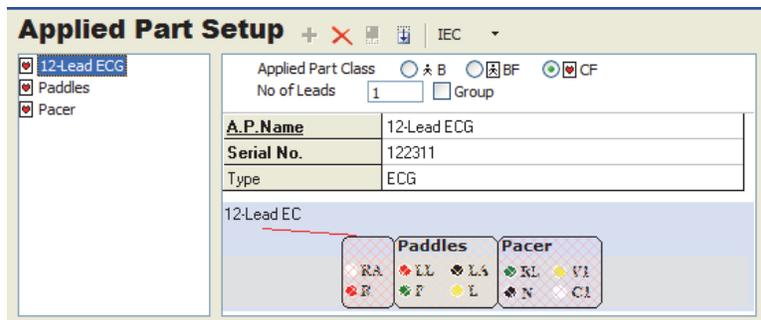

Figure 6-8. Applied Part Setup Example
5. Set the applicable applied part class, type in the applicable number of leads, and type in a name in the **A.P.Name** field for each applied part. Figure 6-8 shows a sample applied part for a defibrillator/pacer.